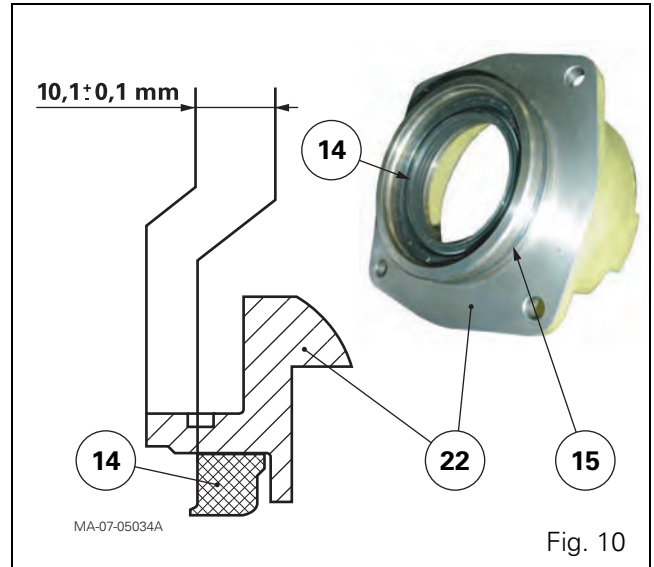
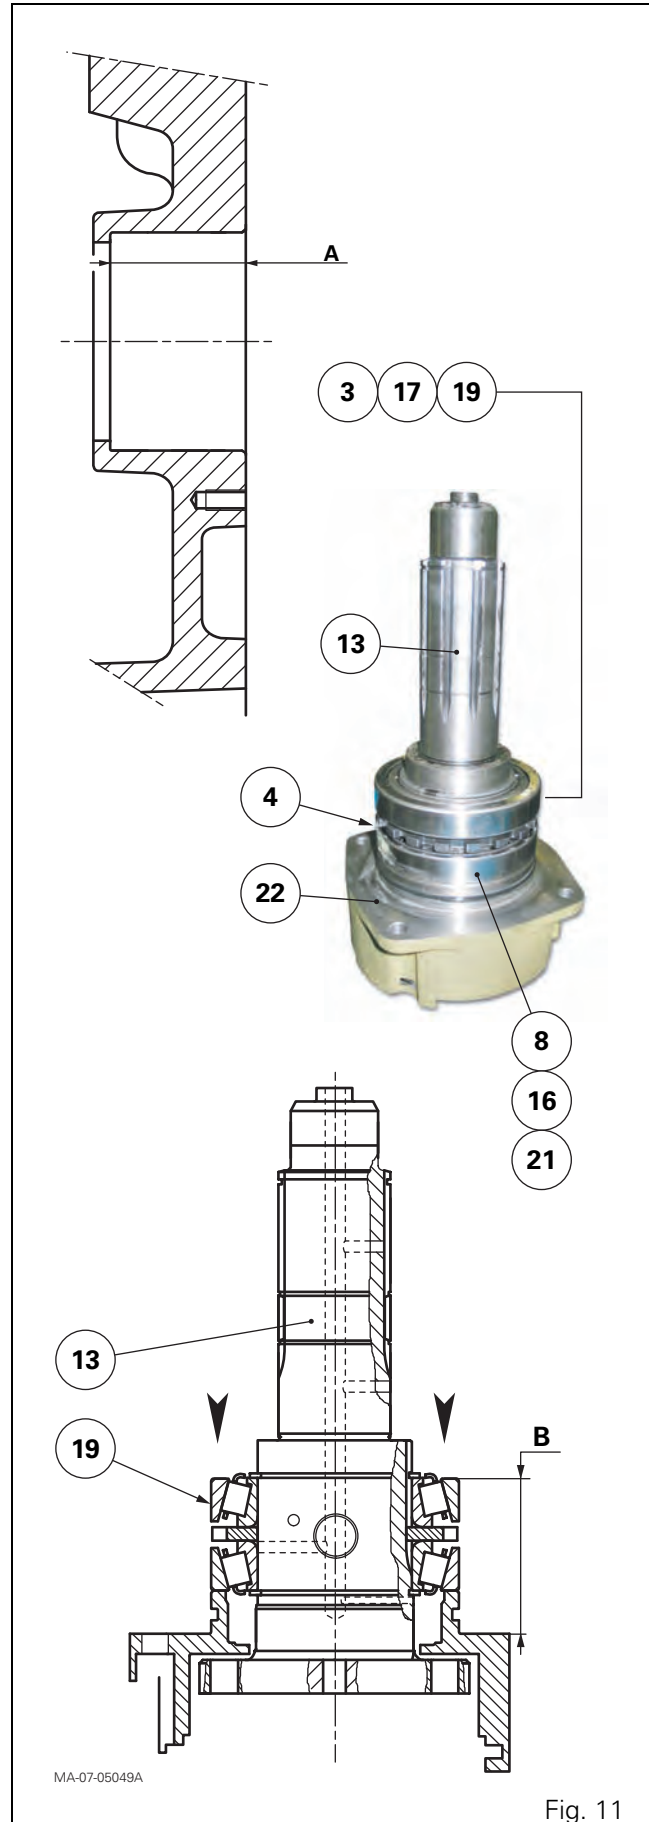

Fig. 10
Fig. 11
56. Using the tool ref. 3378115M1 (see § H), fit the cassette seal (14) in the bearing (22), turning the seal lip towards the inside of the PTO housing.
57. After fitting, check that the seal is positioned as indicated Fig. 10.
58. Fit a new O'ring (15) on the rear bearing (22) (Fig. 10).
59. Lubricate the inner rim of the cassette seal (14) and O'ring (15) with clean transmission oil.
60. Recondition and refit the rear bearing (22) / 1000 rpm output shaft (13) assembly on the PTO housing (see § D).
61. Refit the driven pinion (18) (see § B).
67. Note dimensions A and B (Fig. 11). To avoid being hindered by the resistance of the cassette seal (14) (Fig. 10) on the 1000 rpm output shaft (13), the seal should be temporarily excluded during measurement of A and B dimensions.